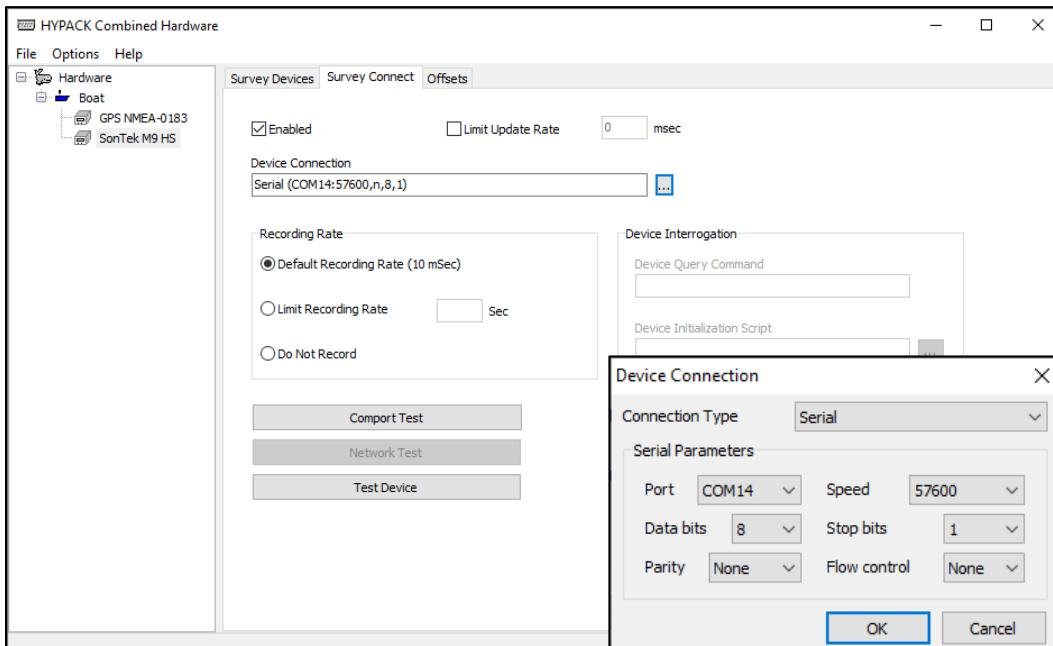
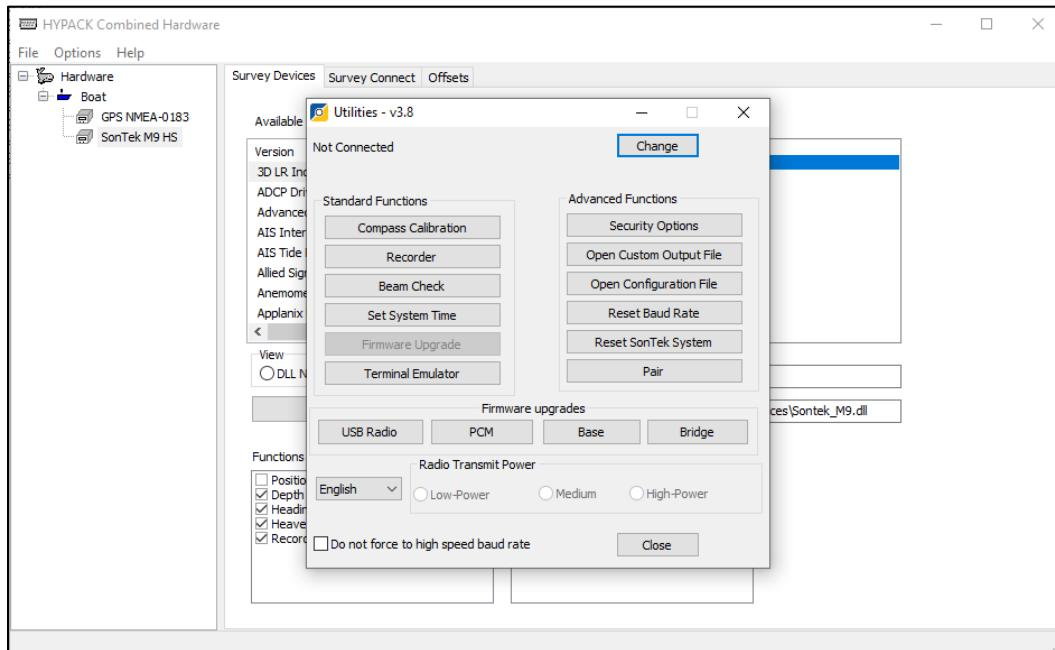

Figure 8.—Device Connection popup window under the Survey Connect tab within the HYPACK Combined Hardware window.
Figure 9.—SonTek Utilities home screen where Compass Calibration can be accessed.
2. While still within the HYPACK Combined Hardware window, select the “Survey Connect” tab (to the immediate right of the Survey Devices tab). Ensure the “Enabled” box is checked and the “Limit Update Rate” box remains unchecked (default); the rate should be left at “0 msec.” Click on the small box containing ellipsis, just right of the long Device Connection box. In the Device Connection popup window, the user can connect to the SonTek M9 device with the following settings (figure 8):
Note: Verify the “Default Recording Rate (10 mSec)” radio button under Recording Rate is selected (figure 8).
- Verify the SonTek M9 device is selected under the Hardware and Boat mobiles on the left side of the HYPACK Combined Hardware window and then select “Options” from the menu bar (figure 8 or 9). Select “SonTek Utilities,” then click on “Compass Calibration” under standard functions (figure 9) to access the compass calibration routine.